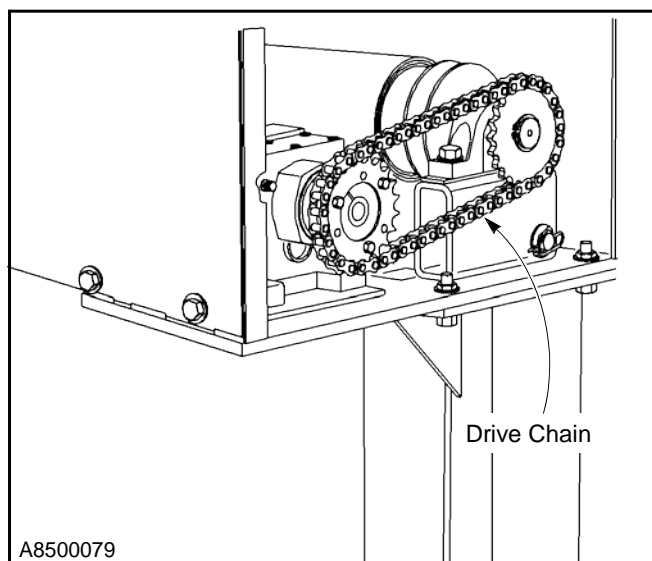

Figure 19
3. **Drive Chain:** The main drive chain should be lubricated with a good grade of heavy lubricating oil. (See Figure 19)